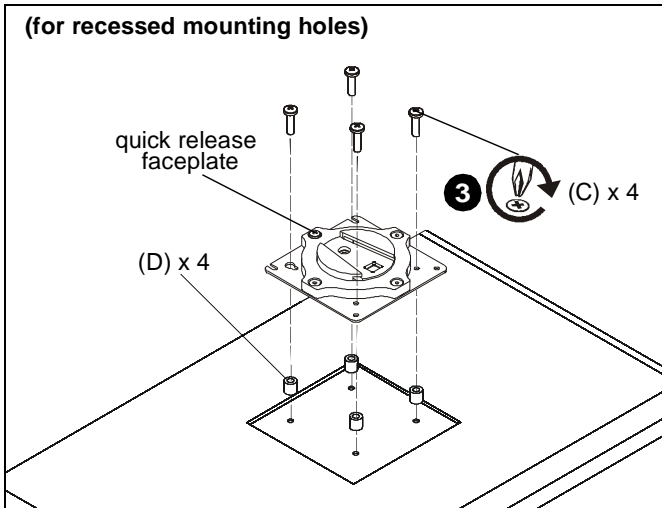

Figure 15
- Place four spacers (D) on top of mounting holes on back of display. (See Figure 15)
- Using Phillips screwdriver, carefully install four M4x25mm screws (C) through corresponding holes on faceplate, spacers (D) and into the mounting holes on the display. (See Figure 15)